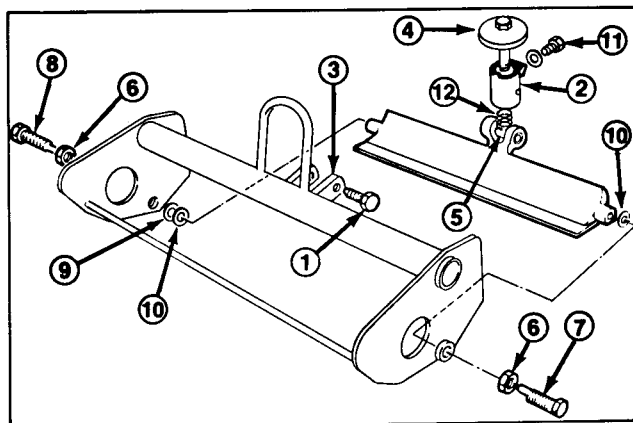

Figure 24
1. Loosen pivot screws securing bedknife pivot assembly to reel frame supports (Fig. 24).
2. Rotate adjustment knob and pivot assembly clockwise (left hand thread) until it is unthreaded from bedbar pivot (Fig. 24).
3. Loosen jam nuts retaining right and left bedbar pivot bolts. Remove pivot bolts (Fig. 24).